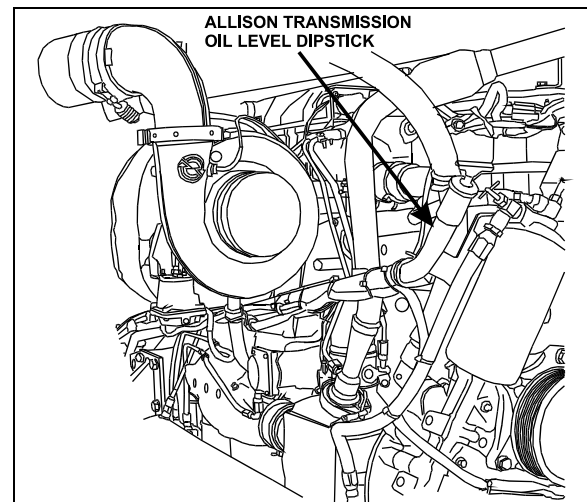

FIGURE 4: OIL LEVEL DIPSTICK (AUTO. TRANS.)
To gain access to the dipstick, open the engine compartment rear doors; dipstick is located on the radiator side of the engine (Fig. 4).
2. Run the engine for at least one minute. Shift to Drive (D) and operate the engine for 30 seconds at 1000-1500 rpm; then shift to Reverse (R) to clear the hydraulic system of air. Finally shift to Neutral (N) and allow the engine to idle (500 - 800 rpm).
3. While the engine is running, remove the dipstick from the tube and wipe it clean (Figs. 4 & 5).
4. Insert the dipstick into the tube and then remove, checking the oil level reading (Fig. 4). Repeat the check procedure to verify the reading. If the oil reading is within the "Cold Run" band, the level is satisfactory for operating the transmission until the oil is hot enough to perform a "Hot Run" check. If the oil reading is not within the "Cold Run" band, add or drain oil as necessary to bring the level within the "Cold Run" band.